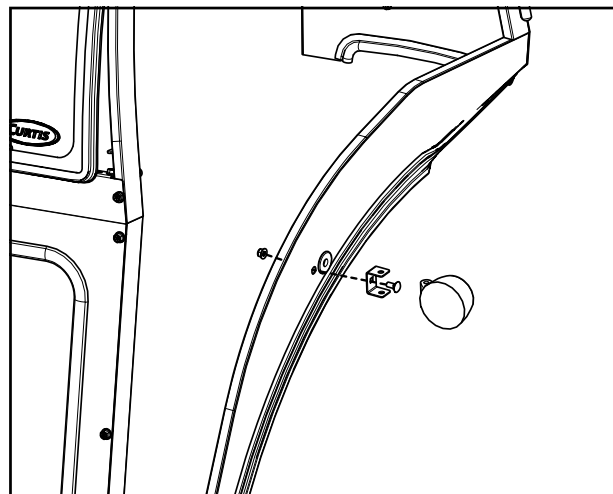

Fig. 17.4 (Fender Light Installation)
17.4 Mount the supplied light brackets to the outside of the side frames. See Fig. 17.4. Do not tighten at this time.